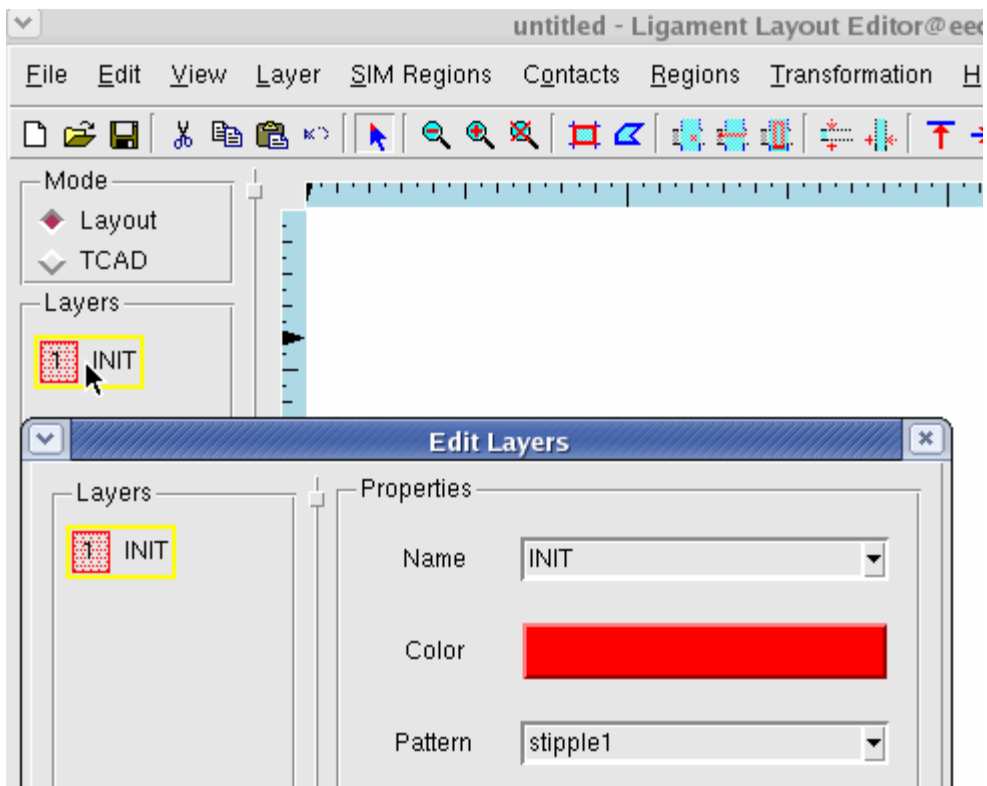

Figure 10: Editing Layers.
- a. Double click on the layer INIT on the left hand side of the editor, a pop-up should appear (Figure 10).